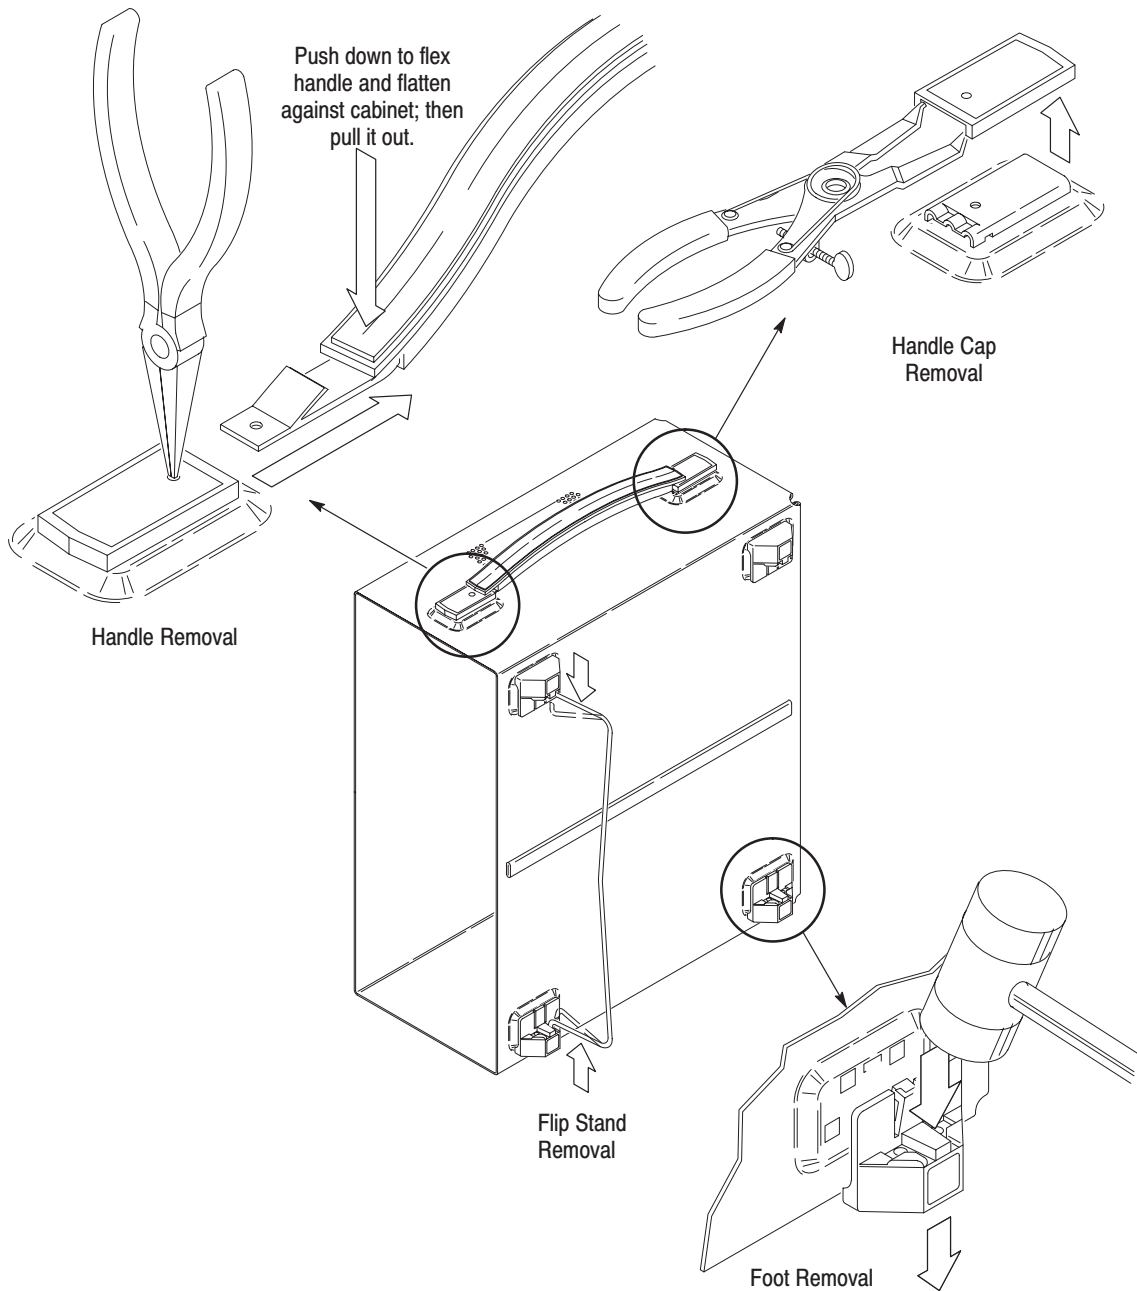

**Figure 3: Trim Ring Removal**
- c. *Remove the standard trim ring:* Grasp the trim ring by its top edge; then pry it up and lift it forward to snap it off of the front subpanel. Set the trim ring aside face down on the work surface. See Figure 3.